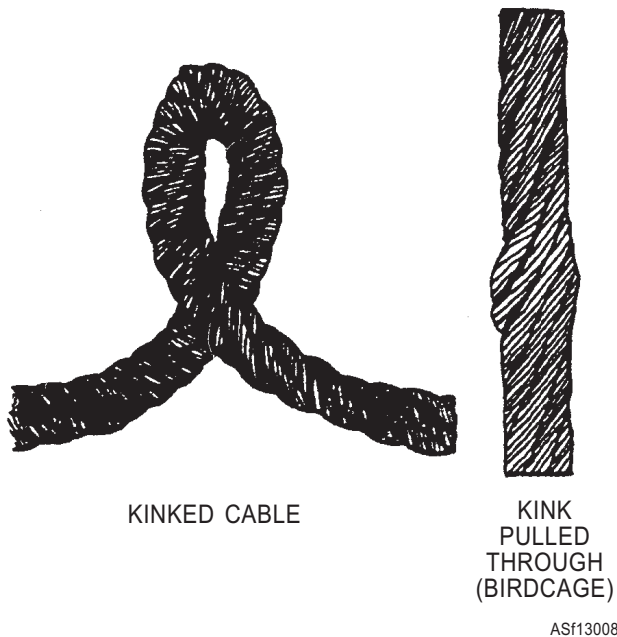

Figure 13-8.—Cable damage resulting from a pulled-through cable.
- Wire rope cables are visually inspected for knots, fraying, stretching, abrasions, broken wires, severe corrosion, or other signs of failure. Of particular importance is the detection of a cable in which a kink has been pulled through in order to straighten the cable (commonly called a bird cage) (fig. 13-8). Any birdcage on a lifting cable is cause for rejection no matter where it is located.